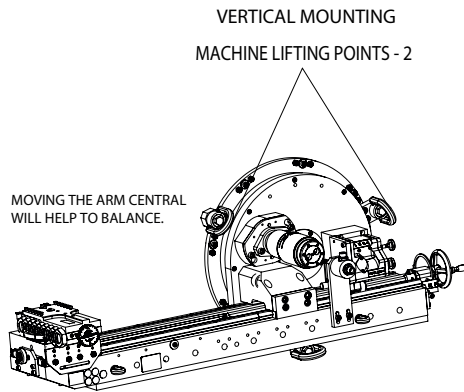

Figure 16: Vertical Lifting
1. Refer to Figure 16 and 17 for machine lifting points.